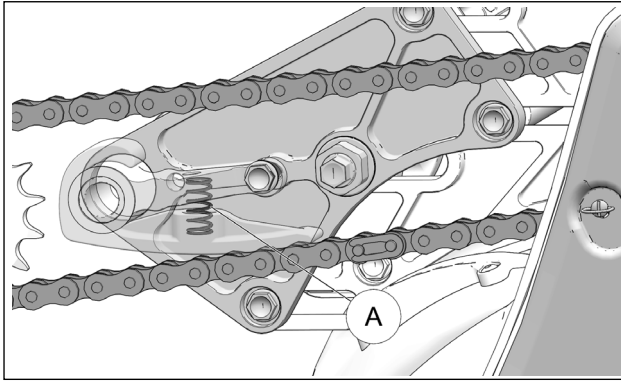

Figure 51
Verify that the Chain guard spring (A) is functional and not damaged. Replace if defective. Figure 51.